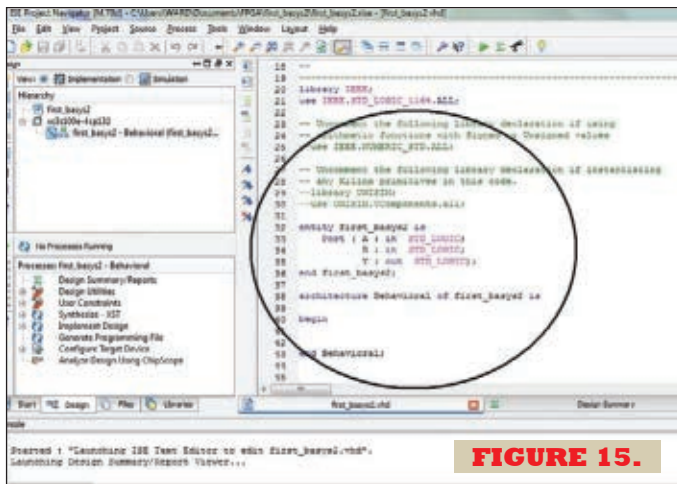

FIGURE 15.
directions; this can be done later but since this is a very simple circuit, it's easy to do it now. **Figure 14** is another Summary window; select Finish to continue on. **Figure 15** shows you the VHDL template that the ISE program created for you with your inputs (A and B) and your output (Y).